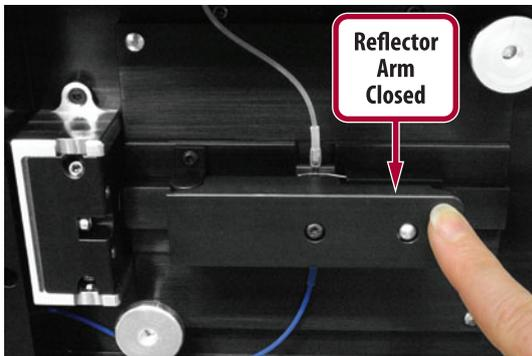

Figure 1. Ensure a flow cell is installed and the reflector arm is fully closed.
1. Ensure that a flow cell is properly installed on the instrument and that the reflector arm is fully closed (Figure 1). Turn on the lamp. Vertical alignment at this point is not critical, it just needs to be close enough to see the upcoming bead pack.